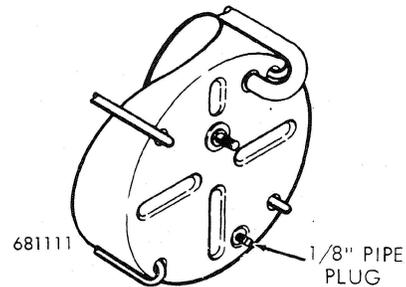

Figure 12
The hydrovac cylinder requires lubrication after every 500 hours of operation. To lubricate the cylinder, remove the pipe plug from the cylinder housing, Figure 12, and pour one (1) ounce of Case TCH oil into the cylinder and reinstall the pipe plug.